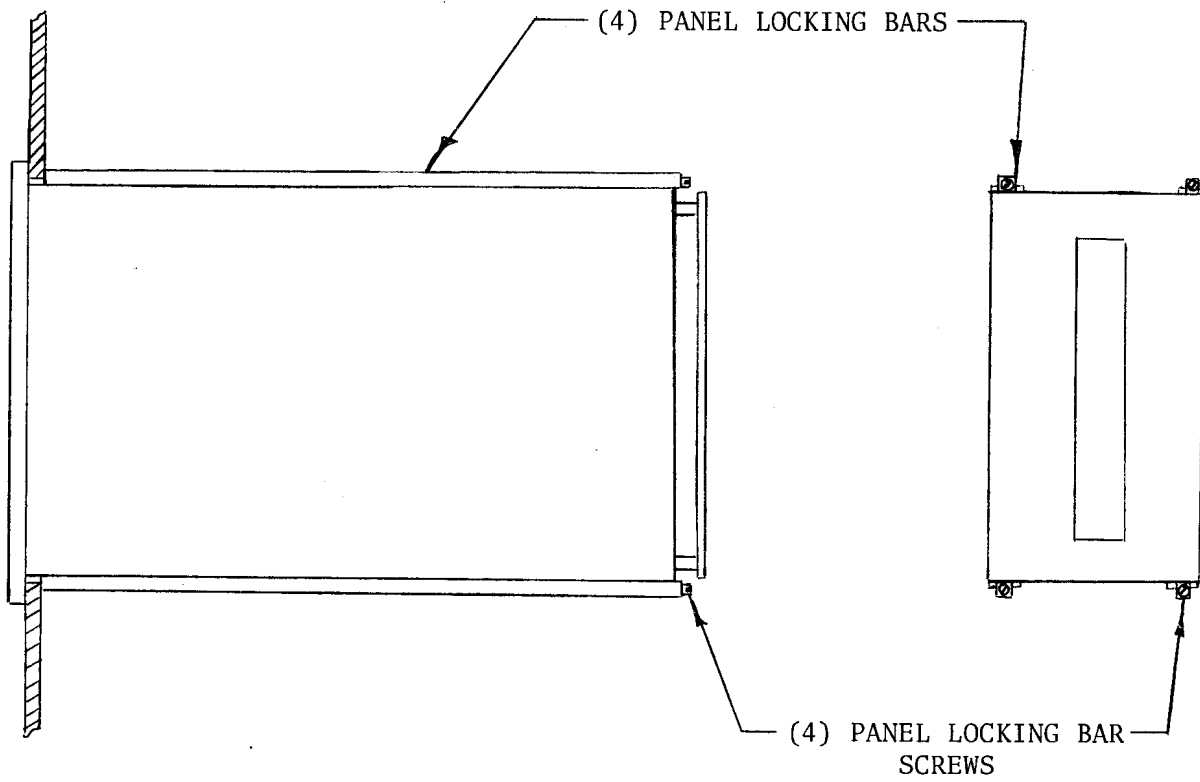

FIG.1
To panel mount the Model 7058 the panel mounting rails must first be removed from the case. This is accomplished by removing the (4) outermost screws as viewed from the rear. (Do not confuse these screws with the rear connector mounting screws). After these screws have been removed the panel mounting rails may be slid out of their tracks. At this point the Model 7058 can be placed in a 7.25 X 3.56 panel cutout. (See Drawing 79904-123). The rails may then be replaced along with the retaining screws thereby securing the monitor. (See Fig.1)